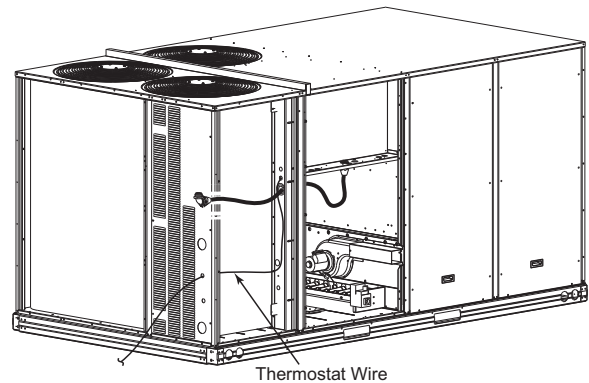

Fig. 40 — Thermostat Wire Routing
The 48FC**16 requires an external temperature control device. This device can be a thermostat (field-supplied) or a SystemVu™ controller (available as factory-installed option for use on a Carrier Comfort Network® or as a stand-alone control). All field added wire must comply with UL and local NEC standards. See “Unit without Thru-Base Connection Kit” on page 21 and use routing path shown in Fig. 40 to help with compliance as needed.
Pass the thermostat control wires through the bushing on the unit end panel. Route the wire through the snap-in wire tie and up to the web bushing near the control box. Route the wire through the bushing and into the bottom left side of the control box after removing one of the two knockouts in the corner of the box. Use a connector at the control box to protect the wire as it passes into the control box. Pull the wires over to the terminal strip at the upper left corner of the Unit Control Board (UCB). Use the connector at the control box and the wire tie to take up any slack in the thermostat wire to ensure that it will not be damaged by contact with the condenser coil. See Fig. 40.
1. Route the humidistat 2-conductor cable (field-supplied) through the bushing the unit's louvered end panel. See Fig. 40.